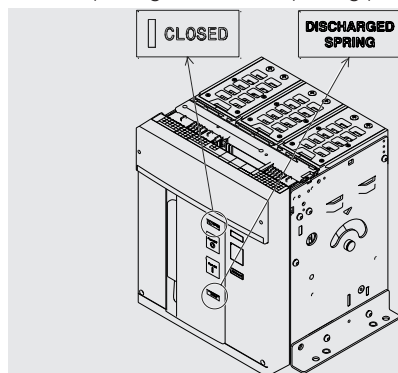

Figure 29
5. Check that the circuit-breaker is closed (open/closed indicator "I - CLOSED"), and check that the springs are discharged (spring signalling device "white - DISCHARGED SPRING") as indicated in Figure 29.